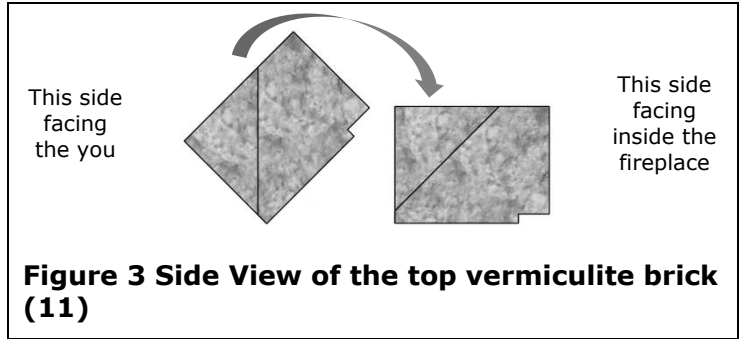
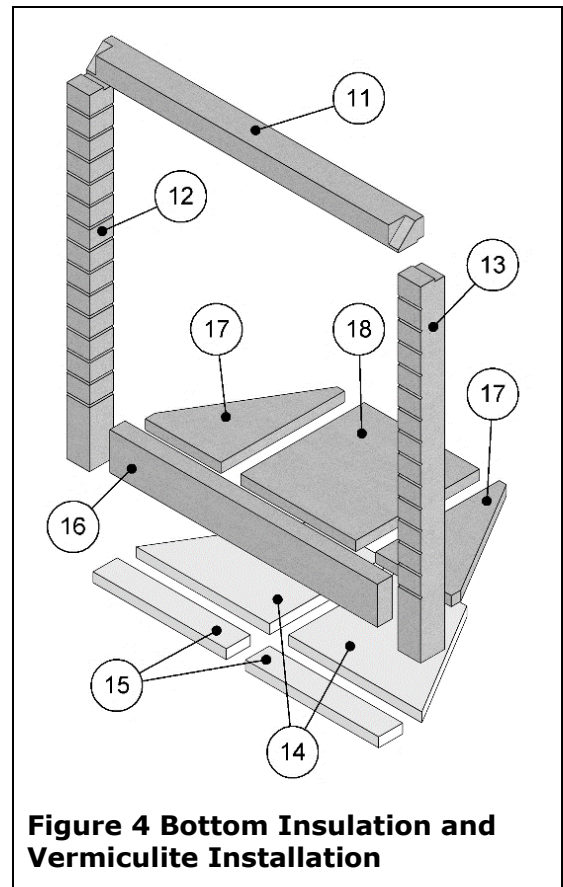

Figure 3 Side View of the top vermiculite brick (11)
Figure 4 Bottom Insulation and Vermiculite Installation
Refer to Figure 3 and Figure 4 to continue with the installation procedure below:
14. To install the next vermiculite bricks, make sure the door is fully raised. Hold the top vermiculite brick (11) in the orientation shown on the left side of Figure 3. From inside the fireplace, slide the brick along the front facing inside the firebox, up to the top. Rotate the brick 45° to the back as shown in Figure 3. The notch will fit to the front angle. Hold it with one hand.
15. While holding the top vermiculite brick (11), install the front left (12) and right (13) vermiculite bricks on each side, the top notch towards the fireplace. The front left and front right bricks should now support the top vermiculite brick.
16. Clean out the bottom of firebox and install both back bottom insulation panels (14) and then both front bottom insulation panels (15). Make sure to have all insulating panels tight together and as close to the front as possible.
17. Install the ash step (16), tight to the front.
18. Install all the bottom vermiculite bricks (17 and 18) as shown in Figure 4.